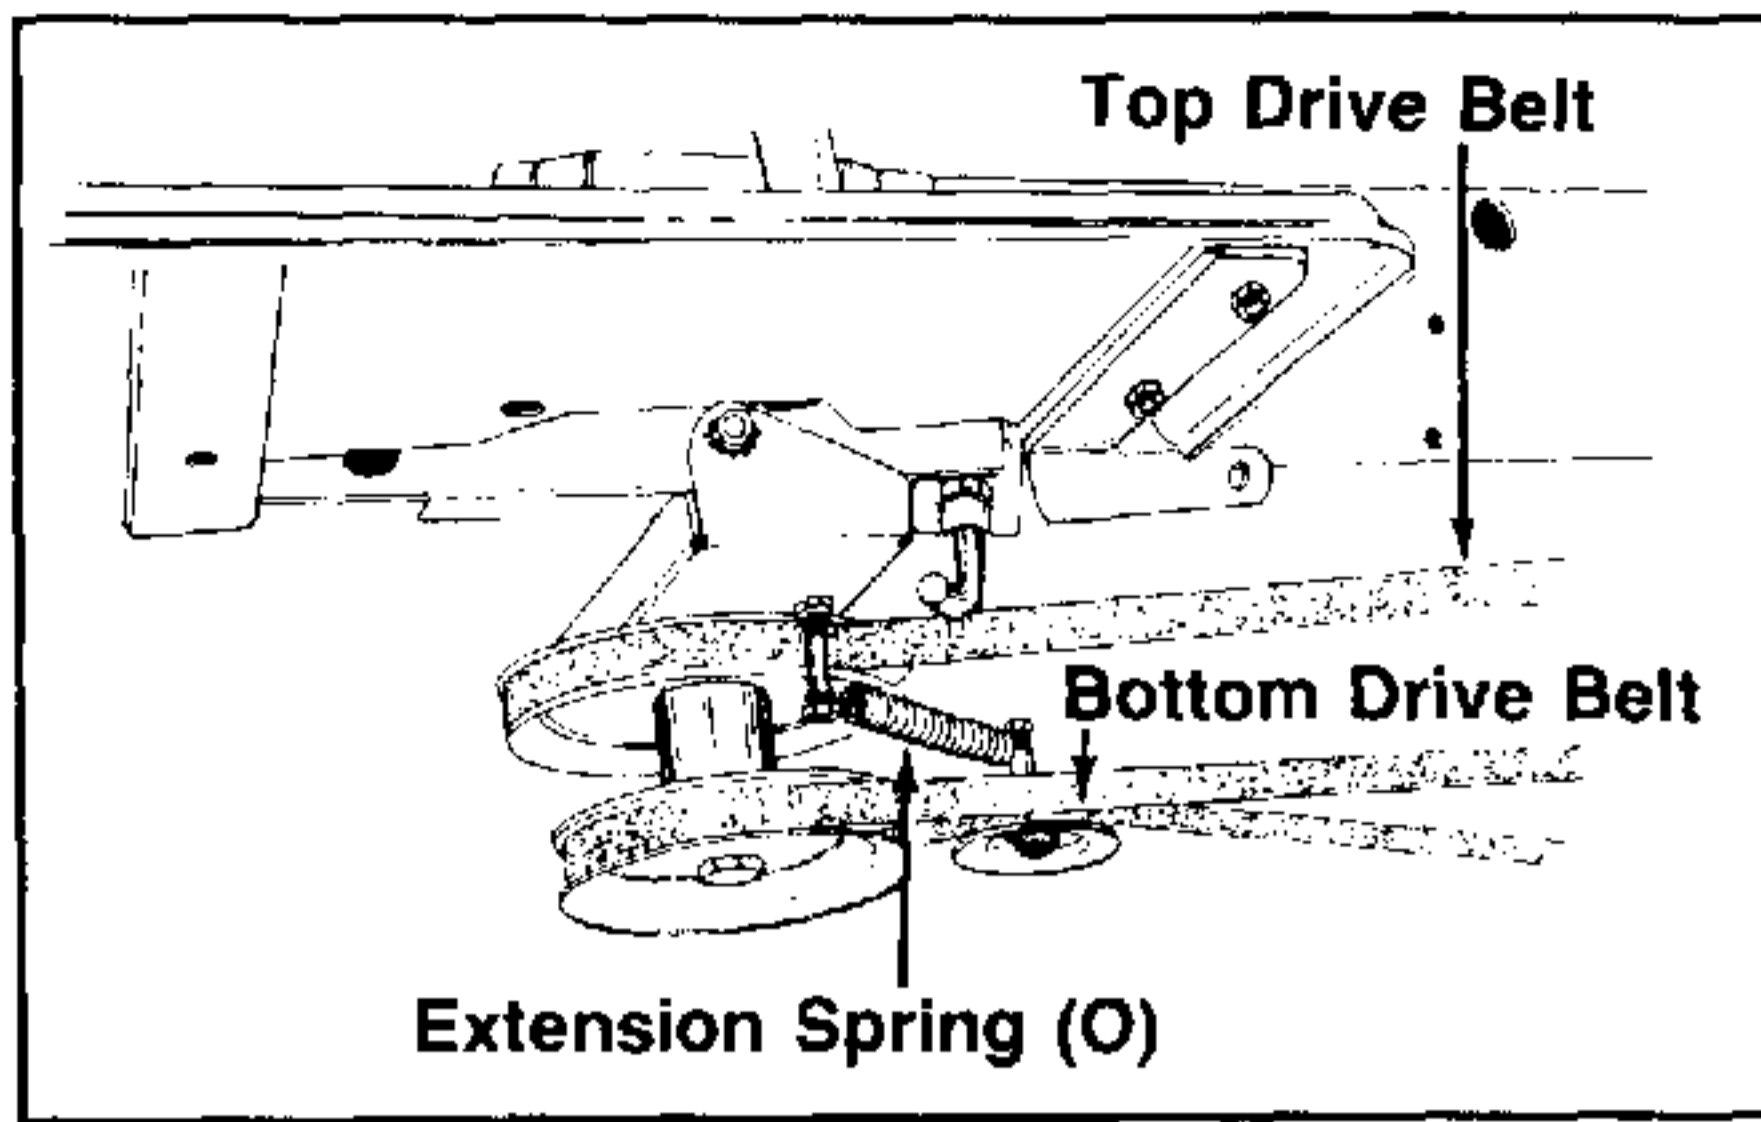

FIGURE 7.
4. Route the top drive belt over the electric clutch on front of tractor and inside of the tractor idler. Refer to figure 7.
13. Attach one end of extension spring (O) to the hex bolt on jackshaft support bracket and the other end to the hex bolt which secures the idler pulley to the bracket. See figure 7.